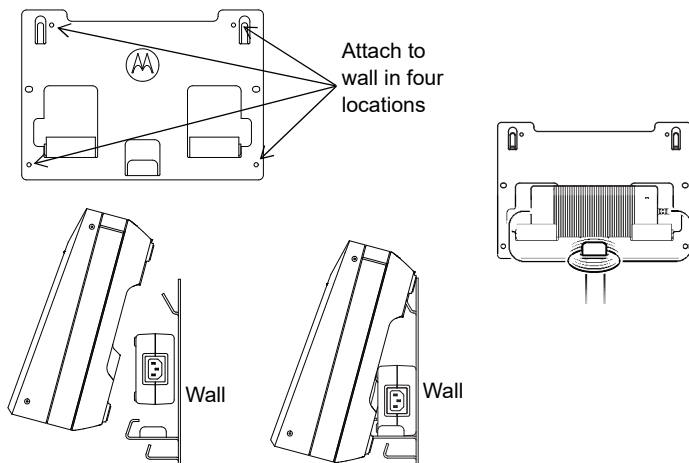

Figure 10: Mounting Multi-Unit Charger to wall bracket
4. Hang the Multi-Unit Charger on wall bracket as show in Figure 10.